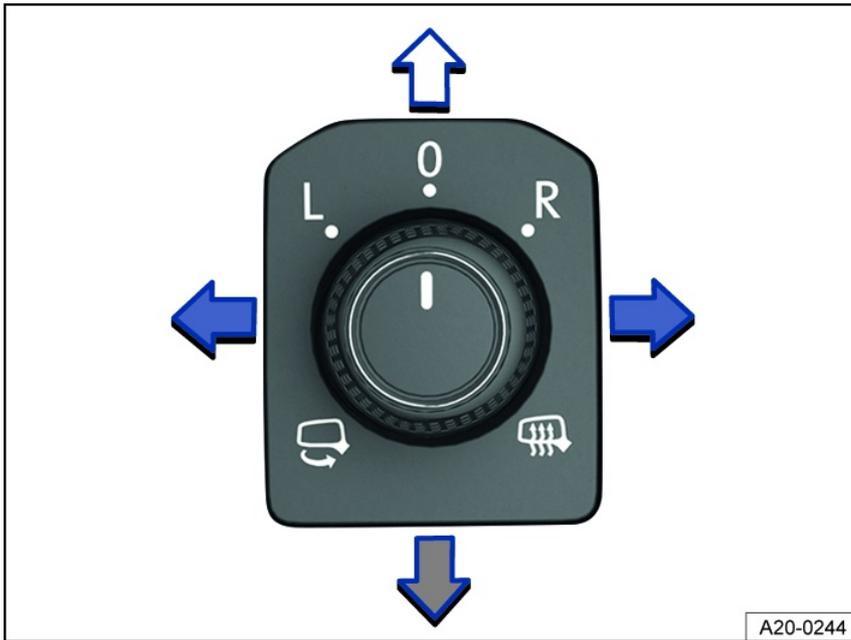

Fig. 102 In the driver door: knob for the outside mirrors.
2. Turn the knob in the driver door to the preferred symbol *fig. 102*.